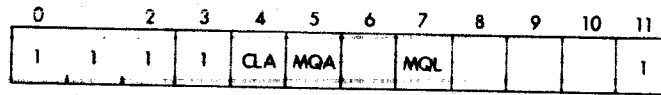

Figure 5-5 Group 3 Operate Microinstructions
**Group 3 Microinstructions**—Group 3 microinstructions are used to transfer data between the AC and multiplier quotient (MQ) registers. Figure 5-5 shows the format of a group 3 microinstruction. The operation code must be 7 to indicate an operate instruction, while bits 3 and 11 must